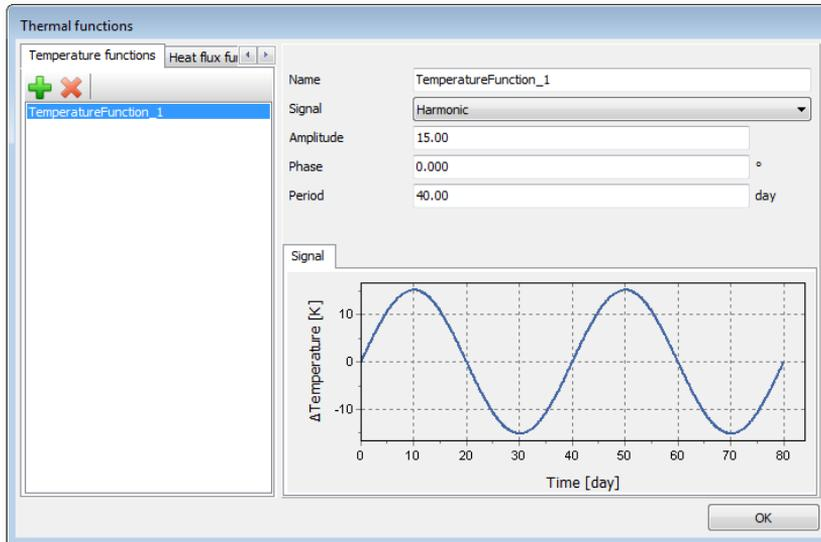

Figure 15.12 The temperature function
- Assign a value of 15.0 for the *Amplitude* and 40 days for the *Period*. A graph is displayed showing the defined function (Figure 15.12). Since the time interval of the phase is 10 days, only a quarter of a temperature cycle is considered in this phase, which means that after 10 days the temperature has increased by 15 K.